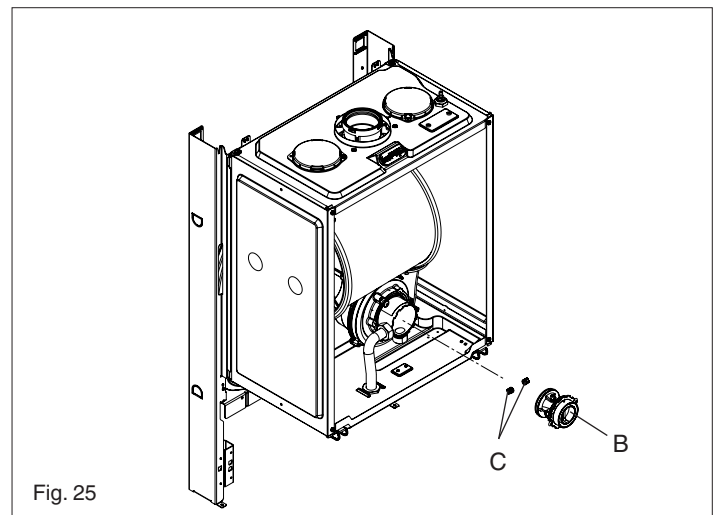

Fig. 25
Carry out component removal procedure as described in 6.4. The gas valve must be changed as complete unit. Disconnect the electrical plug and leads from the gas valve, lacken and unscrew gas valve inlet (gas cock, fig. 14) and outlet (A, fig. 25) connections. **Please note**, the sealing washers (B) must be discarded and replaced with new sealing washers. Disconnect the compensation pipe (C). Locate and remove gas valve retaining screws (D) on the underside of the boiler if required, the gas valve can now be removed. Replace in the reverse order. Check and adjust burner pressure settings. **WARNING, A GAS TIGHTNESS CHECK MUST BE CARRIED OUT.**
### 6.12.1 LPG NOZZLES (fig. 25)